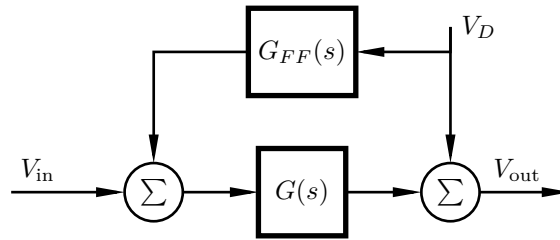

Figure 6: A block diagram illustrating the bandstop filter with disturbance voltage  $V_D$  and feed forward block  $G_{FF}$  from problem 6.
- d. A disturbance  $V_D$  enters the system as illustrated in Figure 6. However, you're able to measure the disturbance and decide to add a feed-forward link  $G_{FF}$  to try to eliminate the effect of the disturbance. What is the new transfer function from  $V_D$  to  $V_{\text{out}}$ ? Choose  $G_{FF}$  to eliminate the effect of the disturbance  $V_D$ . (2 p)